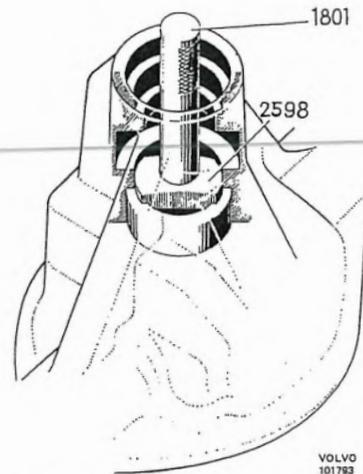

Fig. 4-137. Removing rear pinion bearing race
9. If necessary, drive the rear bearing out of position, see Fig. 4-137. Use standard handle 1801 and drift 2598.